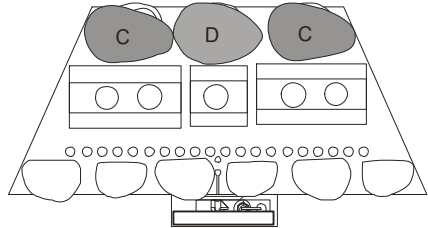

Figure 27
2. Place pebbles **C & D** in position as shown in **Figure 27**.